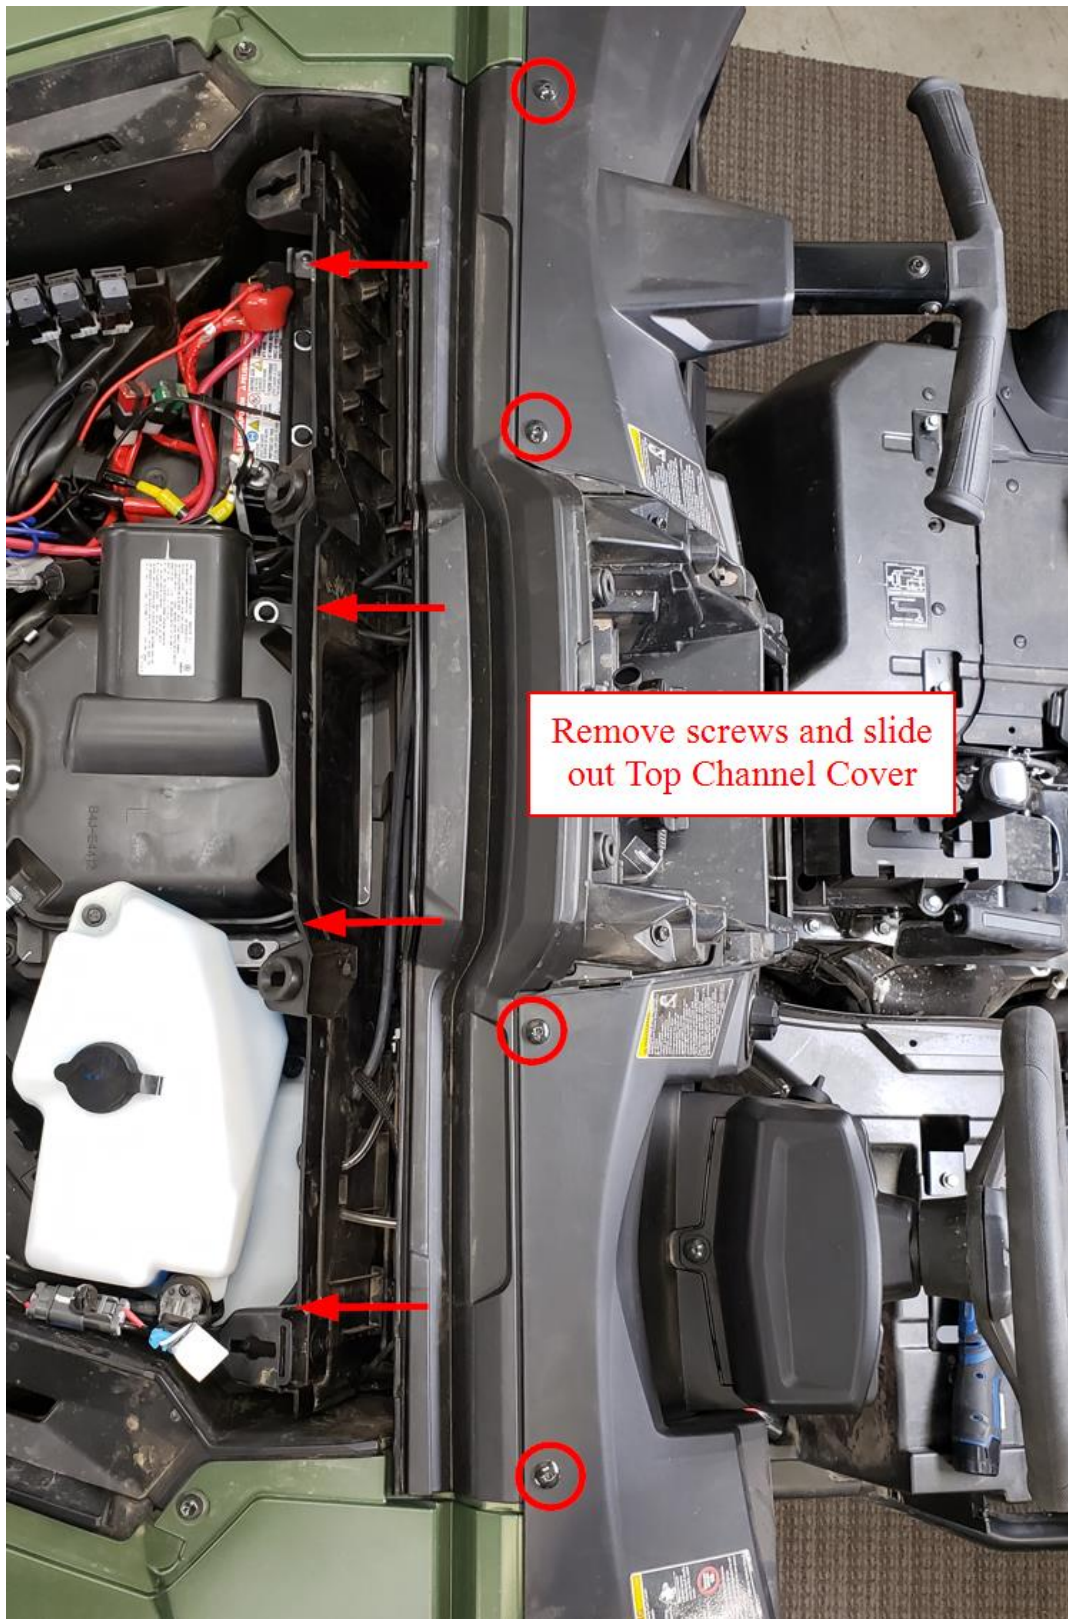

Figure 1
- b. Remove Hood, Window and Top Channel Cover as shown in Figure 1